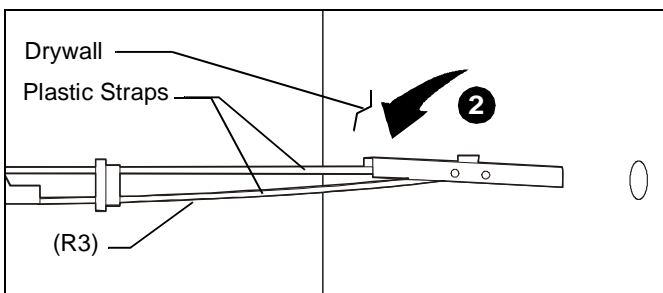

Figure 4
2. Hold metal channel on anchor (R3) flat alongside plastic straps and slide channel through hole. (See Figure 4)